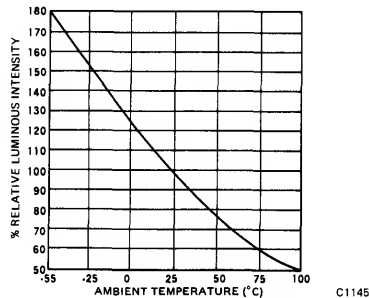

Figure 2 Luminous Intensity vs. Temperature
- The curve in Figure 2 is normalized to the brightness at 25°C to indicate the relative efficiency over the operating temperature range.